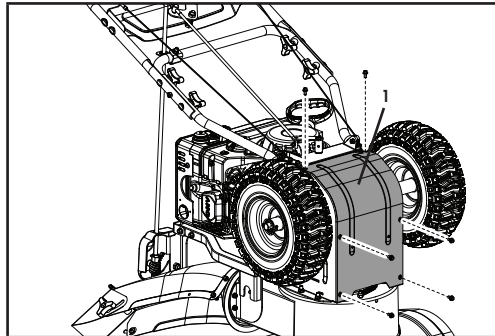

Figure 48A
2. Remove the base frame cover (1) from the underside of the snowblower by removing the six M6 × 16 screws which secures it (Fig 48A).